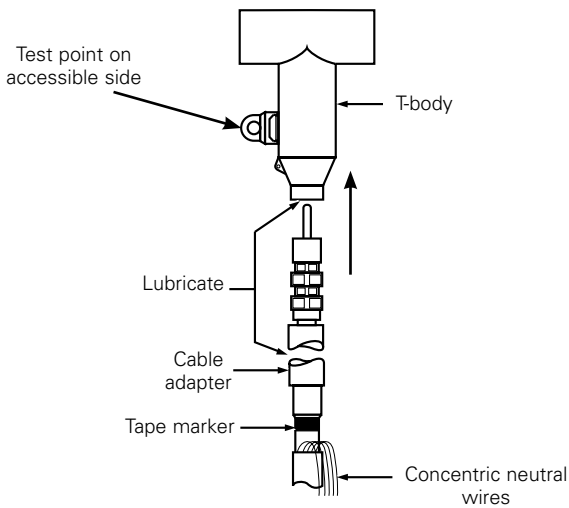

Figure 24. Line illustration of T-body installation.
- Without moving the cable adapter, slide T-body onto cable adapter until compression connector eye is centered in 600 A interfaces. (Refer to Figure 24.)